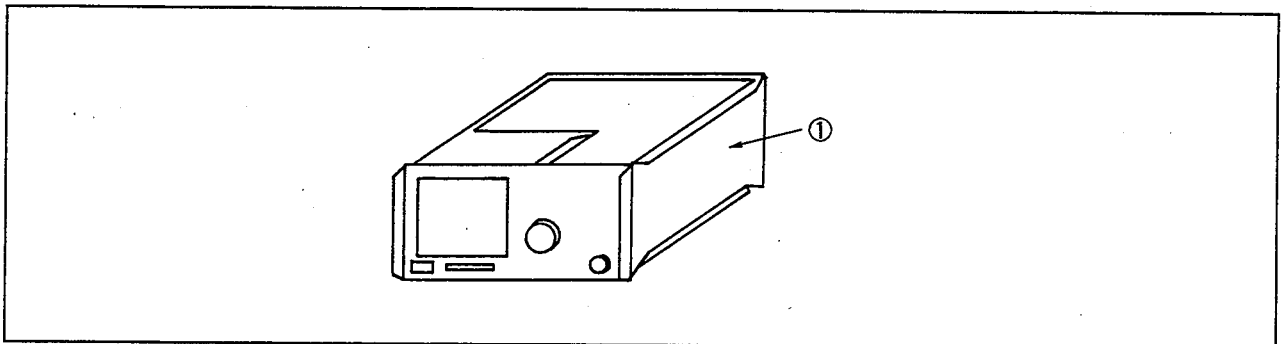
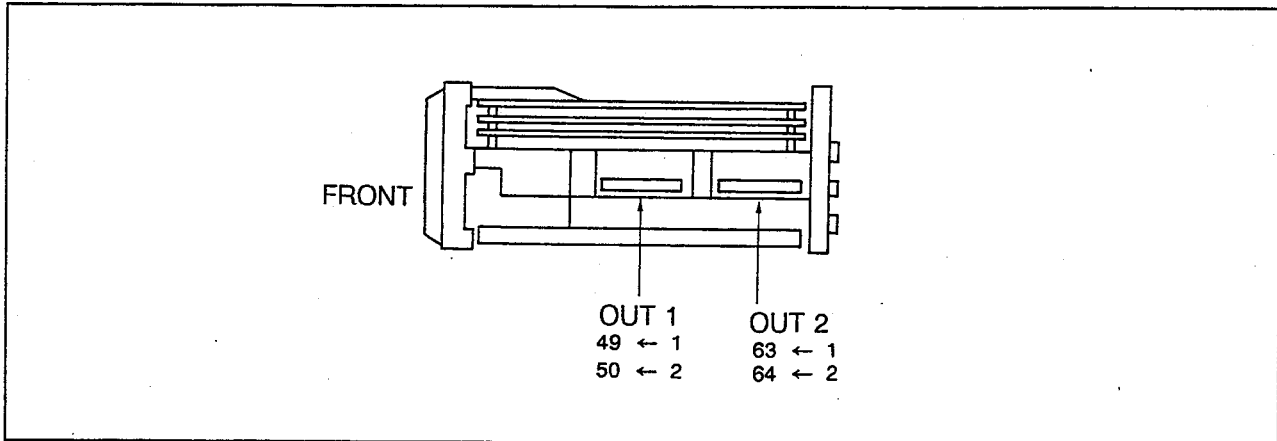

Figure 6-1 Removing Panel
Figure 6-3 Connector and Pin No.
- Turn off the power switch and remove the power cable. Remove panel ① shown in Figure 6-1 and remove the output connector from the power supply. Reinstall the power cable and turn on the power switch to check that the rear LED flashes.
Remove panel ① shown in Figure 6-1 and remove the output connector from the power supply. Check if specified voltages are output (see Figure 6-3). Table 6-2 shows connector pin Nos. and output voltages.